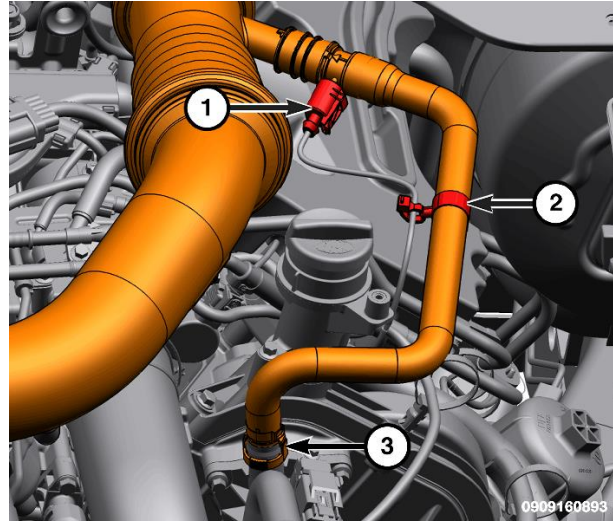

Figure 22 – Closed Crankcase Ventilation Connector
4. Disconnect the Closed Crankcase Heater Ventilation (CCV) heater wire harness connector (1) (Figure 22).
5. Detach the CCV heater wire harness retainer (2) (Figure 22).